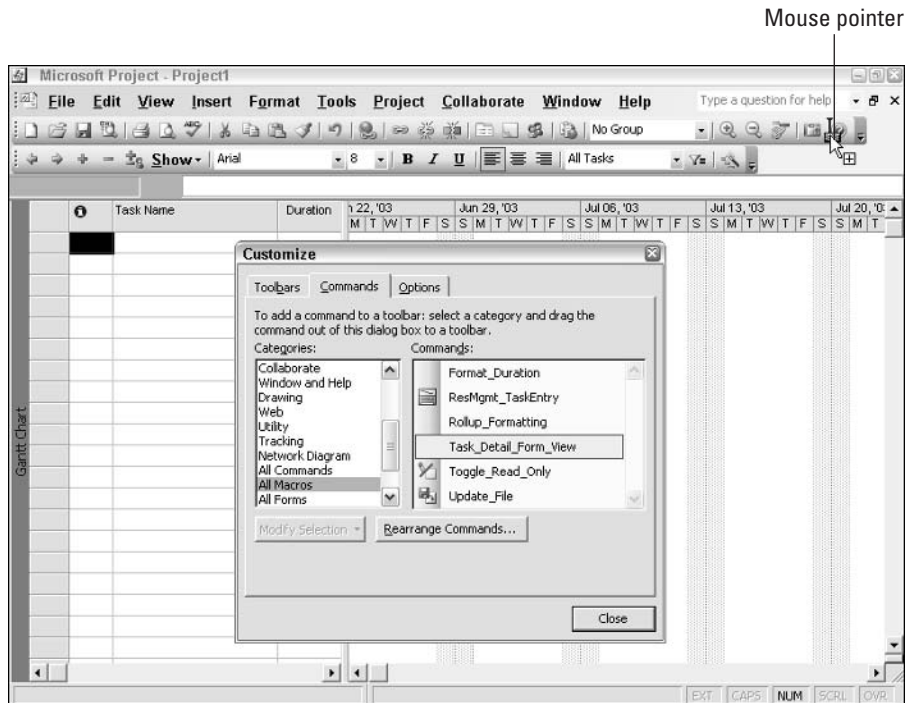

Figure 24-7: The image of the mouse pointer icon changes as you drag a macro onto the Standard toolbar.
5. Drag the macro that you want to add onto the desired toolbar, as shown in Figure 24-7. As you drag, the mouse pointer image changes to include a small button and a plus sign. As you move the mouse pointer over a toolbar, a large insertion point marks the location where the button will appear when you release the mouse button.